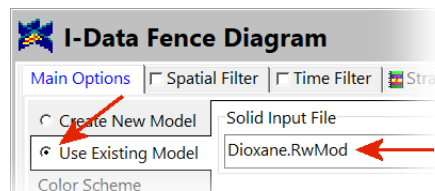

Figure 86
- Given that the I-Data model was created in Exercise 5.1, we can skip the re-creation of the model by selecting the Use Existing Model option and specifying the existing “Dioxane.RwMod” file as the input (Figure 86).